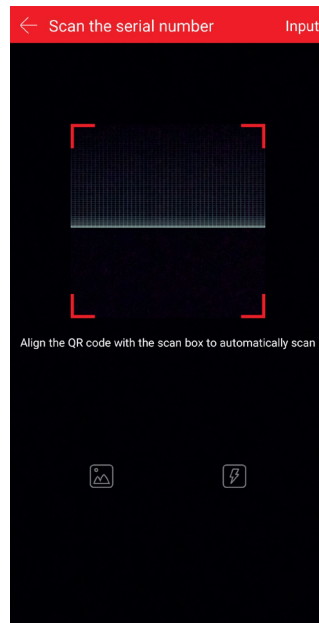

Fig.25
- In the opened window as in Fig. 25, add the serial number of the device by scanning the QR code from the recorder's menu or by entering it manually.